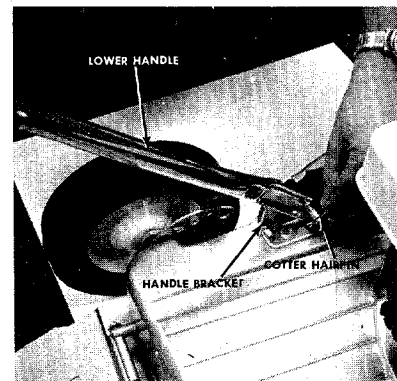

FIGURE 3. LOWER HANDLE ASSEMBLY
2. Assemble the lower handle to the handle brackets as shown in figure 3.
3. Secure the handle with cotter hairpins on both sides. See figure 3.